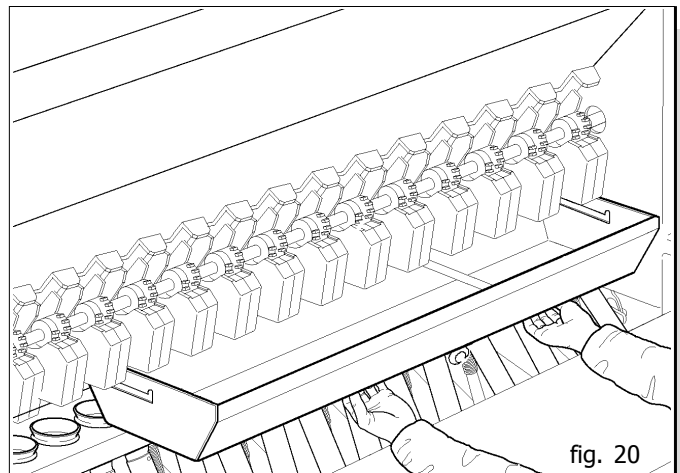

fig. 20
- 2) Release the seed-test trays (Fig. 20) and position them beneath the seed discharge mouths.